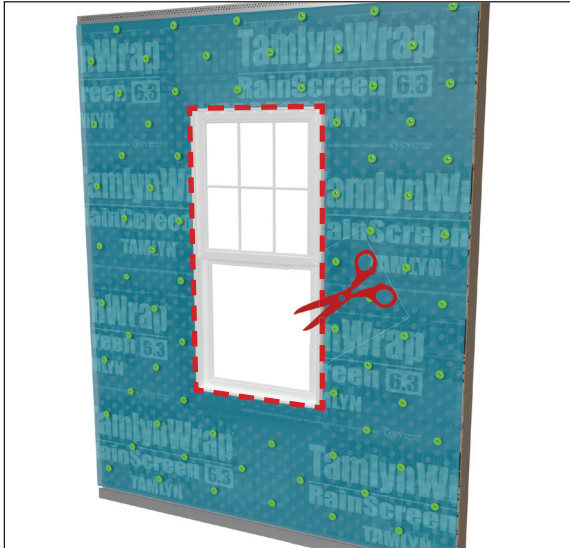

FIG 4:
- Trim **TamlynWrap[®] RainScreen 6.3** for a tight fit around windows along the edges and any other penetrations as shown in **(FIG 4)**.